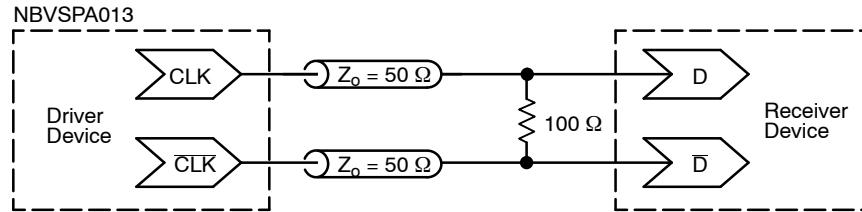

Figure 4. Typical Termination for Output Driver and Device Evaluation
2. Measurement taken with outputs terminated with 100 ohm across differential pair. See Figure 4.
4. Measurement taken with outputs terminated with 100 ohm across differential pair. See Figure 4.